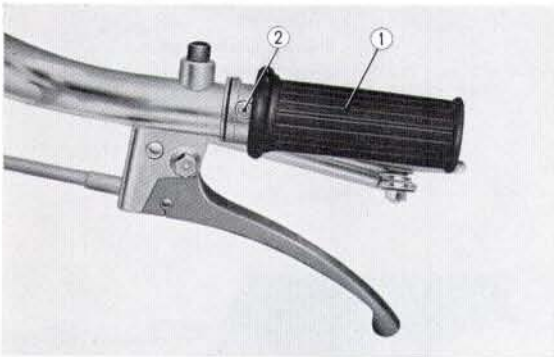

Fig. 1.25 ① Grip rubber ② Screw
1. When excessive play exists in the direction parallel to the shaft, turn up the grip rubber and check the screw for looseness. (Fig. 1.25)